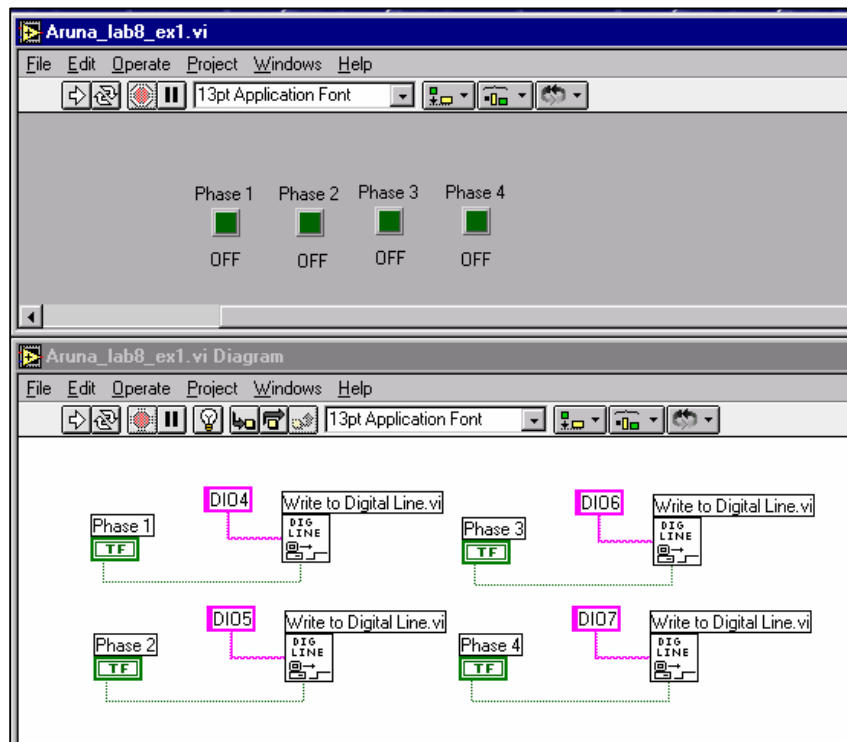

Figure 2. Front panel and block diagram for `yourname_lab8_ex1.vi`.
1. Launch *LabVIEW* and build the VI shown in Figure 2. Each of the four buttons on the front panel is a **Square Light** that turns bright green when the button is in the ON position and turns dark green when the button is in the OFF position. To display the Boolean ON (or OFF) text values for each square light, right-click on the square light and select **Show>Boolean Text**. You can move the Boolean ON (or OFF) text values using the *Positioning* tool.